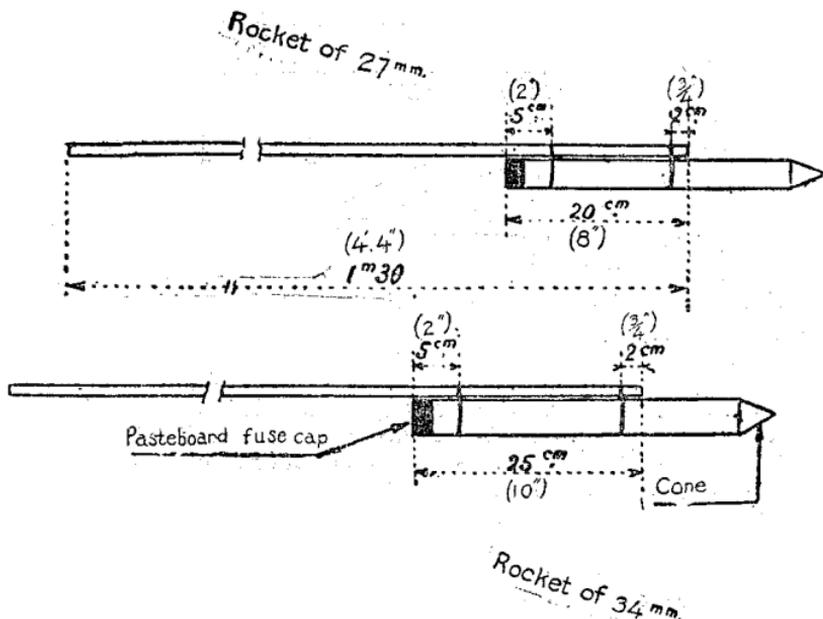

FIG. 124.
*To fix the rocket stick.*—The rocket stick is 4.26 ft. long, cross section 0.51 in. Attached by wires well tightened and secured, as in figure 124. The stick parallel to the axis of the rocket.